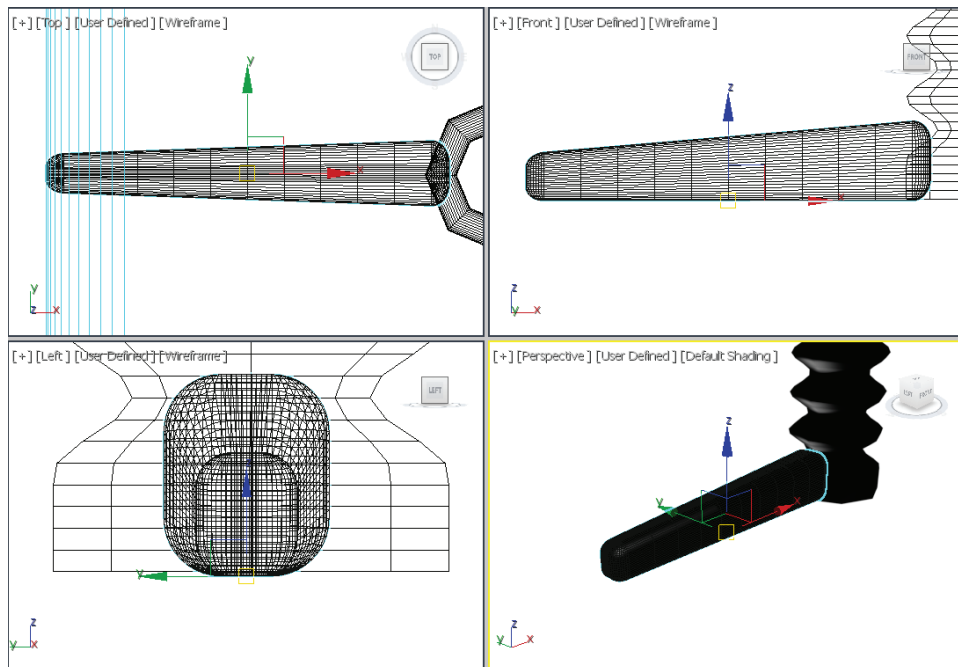

Figure 3-42 The leg01 geometry displayed in viewports after applying the **Taper** modifier
10. After entering the values, *leg01* is tapered, as shown in Figure 3-42.